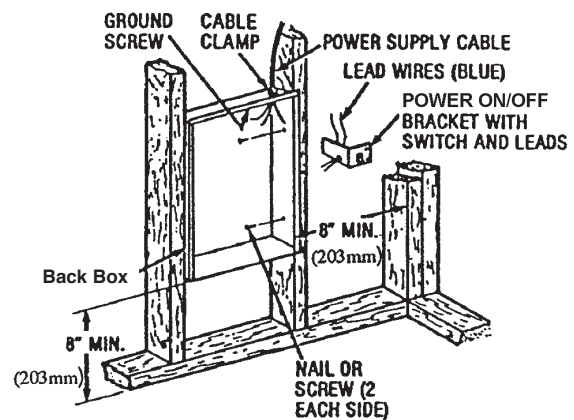

Fig. 1: Locating Back Box in New Construction
### 1. Mounting Back Box (See Figure 1)
- c. Secure the back box in position with wood screws or nails as shown in Figure 1.
### 2. Power Supply Wiring (See Figure 1)